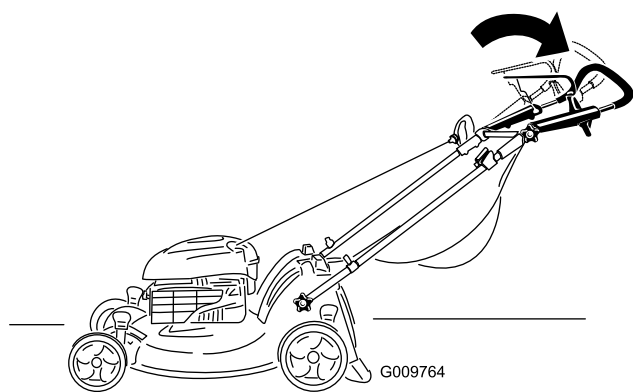

Figure 19
2. Move the upper handle to the desired position (Figure 19).
3. Tighten the upper-handle knob firmly (Figure 19).